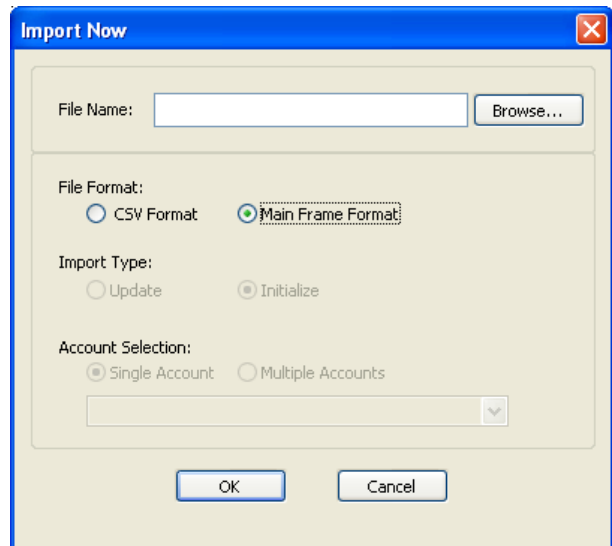

Figure 71
2. From the FILE pull down menu, select IMPORT and then choose IMPORT NOW or SCHEDULED IMPORT. The selected import window will appear (Fig 71).